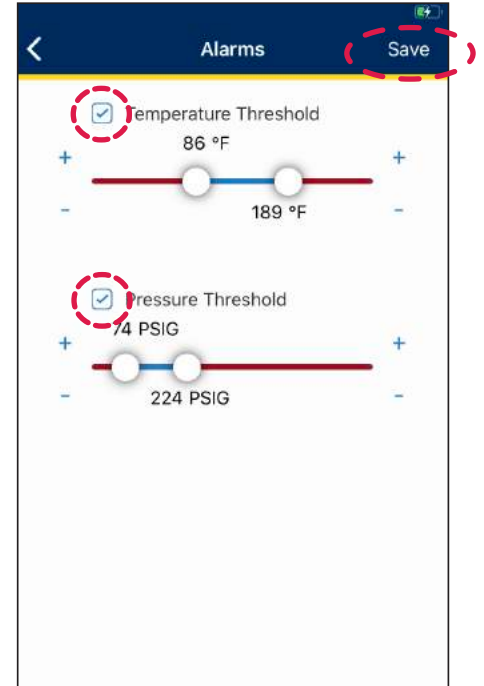

Figure 16
3. Alarms are disabled by default (greyed out). Tap on the empty checkbox above the slider to enable the alarm. Then adjust the slider to establish the min/max limits for your sensor (see figure 16). If measurements go above/below these limits, the Mobile App and in-unit LED alert system will alert you of any undesirable events.